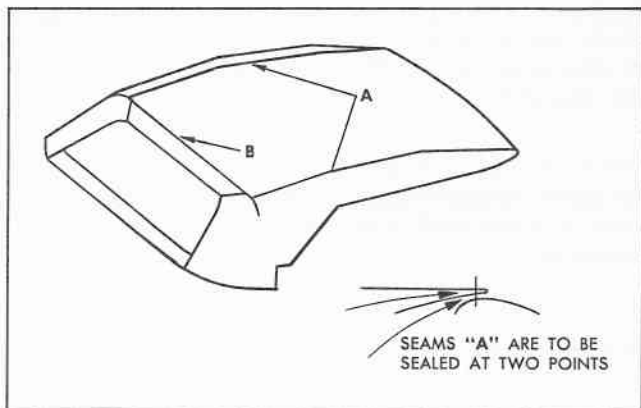

Fig. 4 Sealing Locations On Convertible Top
In order to prevent leakage at the seams of service replacement convertible tops, it is imperative that two sealing operations be performed. Three-M Super Weatherstrip Adhesive may be used to seal seams "A" and "B" (Fig. 4) in the following manner:
1. To gain access to the seams at "A", raise the top approximately half-way. Open the seam from the underside of the top and apply 3-M Super Weatherstrip Adhesive along the entire length of the seam with a plews oiler. Note that a double bead of sealer is required to seal the seam (Fig. 4). Apply the sealer so that it will flow around the stitches and provide a proper seal. These seams must be sealed prior to installation of the top.